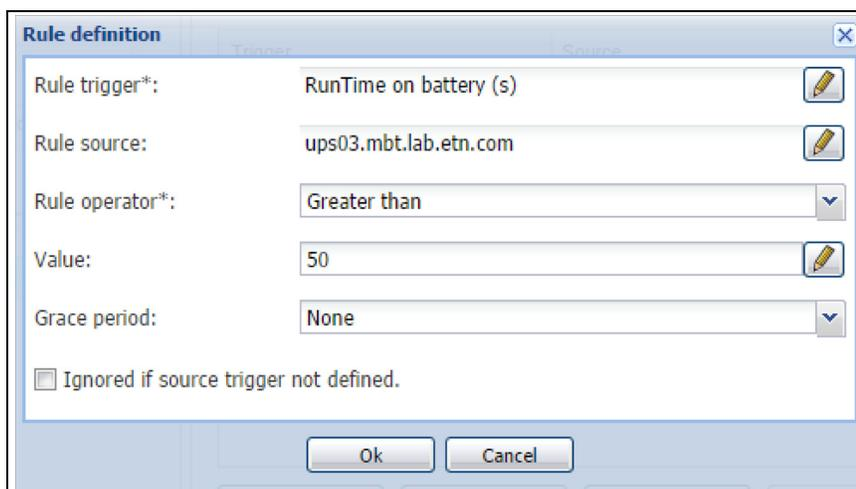

Figure 171. Rule Definition
- On the Rule definition dialog, select the source and the value (see Figure 171).